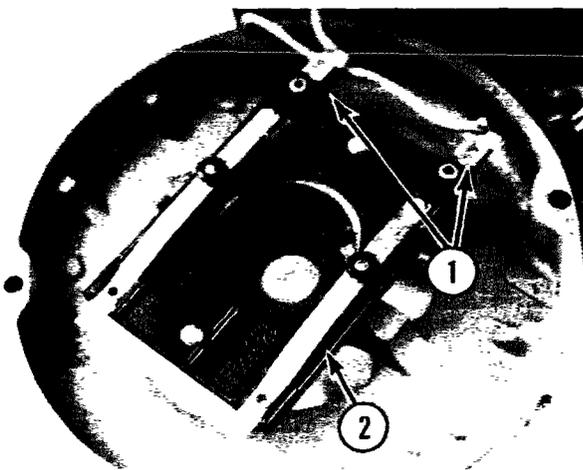

Fig. 2-14
- (5) Separate the bearing brackets and the stator. Disconnect the leads to the stationary part of the start switch (1, Fig. 2-14). (For single phase motors only).
- (6) Pull the rotor out of the stator.
- (7) Remove the starting switch from the bearing bracket (2, Fig. 2-14). (For single phase motors only).